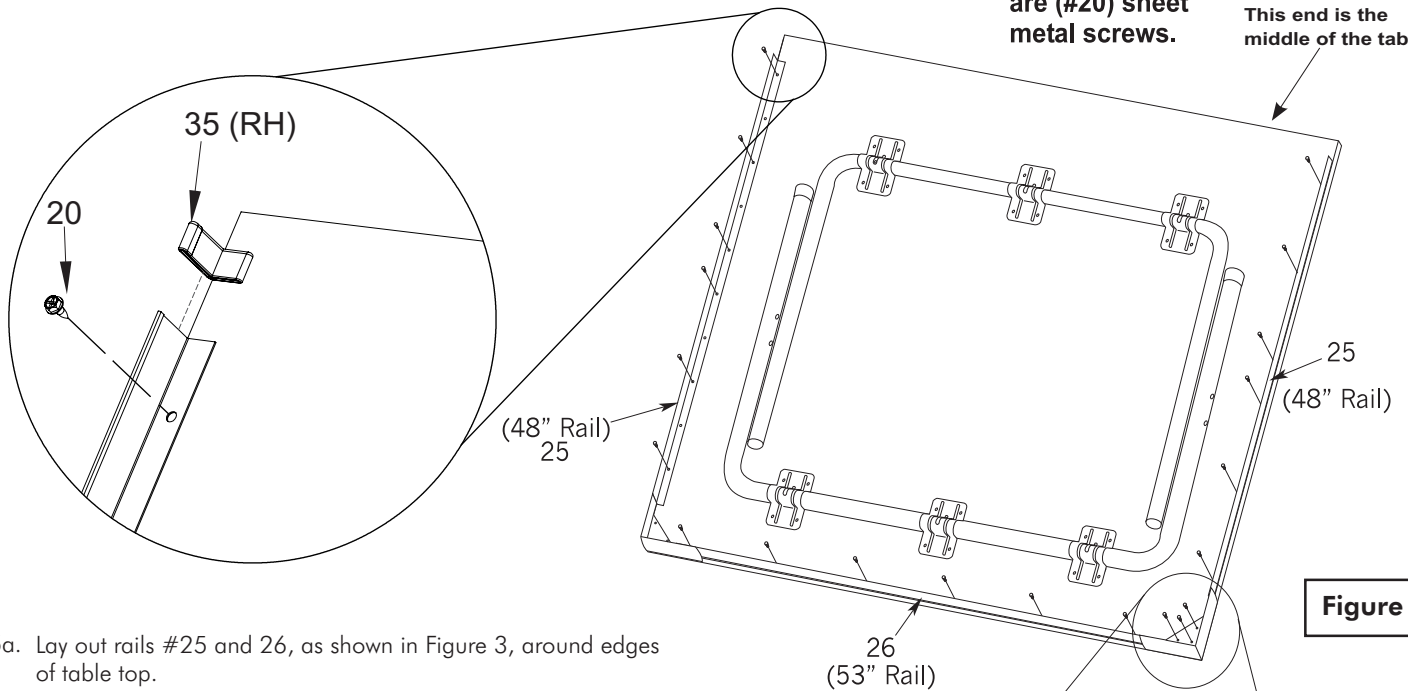

Figure 3
- 5a. Lay out rails #25 and 26, as shown in Figure 3, around edges of table top.
6. Line up holes in rails with pilot holes in top and secure using eighteen screws #20. See Figure 3.